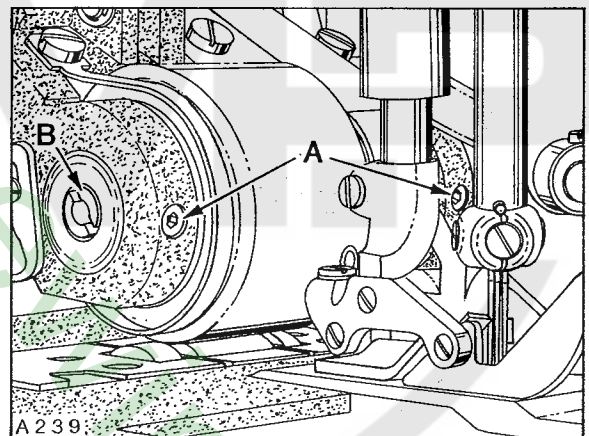

Fig. 36
The roller puller belt, which is located under hinged belt guard (D) should have 1/8 inch (3.2mm) deflection when pressing firmly between drive sprockets. If adjustment is required loosen two allen screws (A, Fig. 36) and turn eccentric shaft (B) slightly to apply tension on belt. Turning shaft clockwise tightens belt counterclockwise acts the reverse. CAUTION! Care must be taken not to disturb eccentric shaft (left or right). Tighten two screws (A) securely.